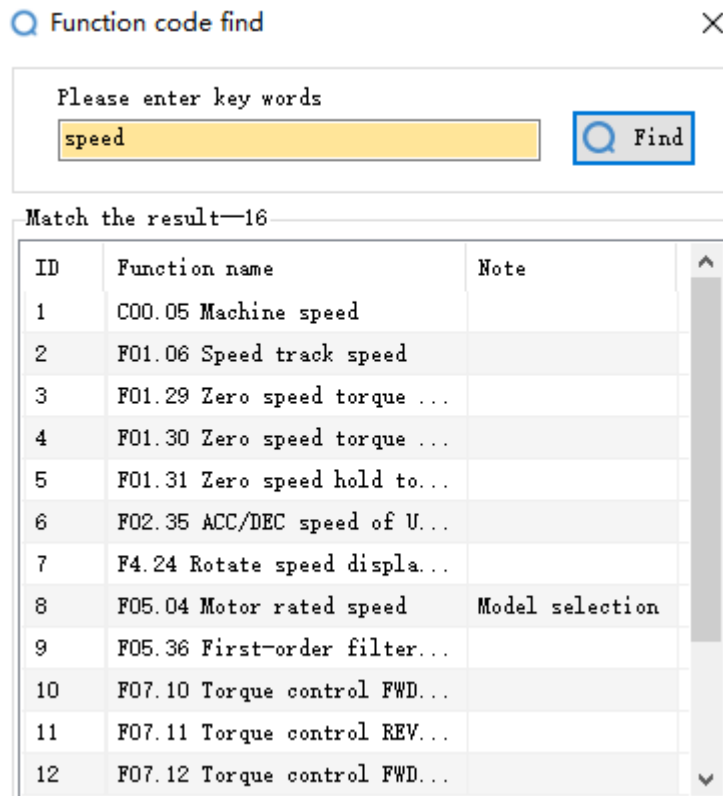

Figure 14
1. Click toolbar icon  , pop-up dialog box, as shown in figure 14 as below: